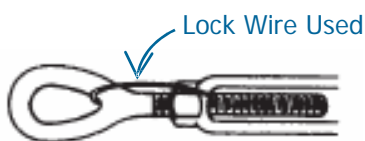

Fig. 6
- 🕒 Securing Turnbuckles – twisting of the turnbuckle might occur, use a lock wire to prevent rotation of the turnbuckle. (see fig. 6)